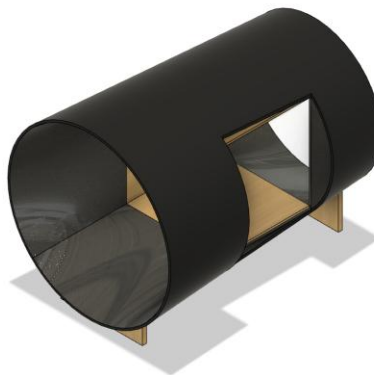

Figure 3. The wind tunnel (Test Rig) that will be used to test the wind turbine designs.
- Access to a wind tunnel for testing (see Figure 3)
- The turbine must fit within a 210 x 210 x 210 mm Space (see Figure 3).
The Test Rig used will be a wind tunnel that is like the one in Figure 3.